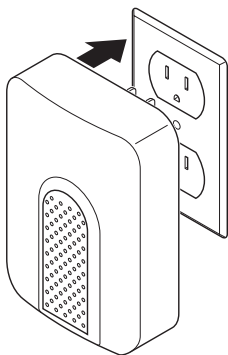

Figure 2
- 2. Plug in wireless chime (see Figure 2).**